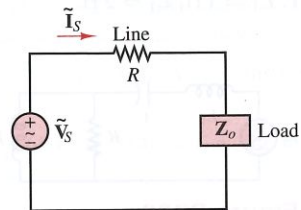

Figure P7.29
- 7.29** The load Z_o shown in Figure P7.29 consists of a $20\text{-}\Omega$ resistor in series with a 0.01-H inductor. Assuming $f = 60\text{ Hz}$, $R = 0.5\text{ }\Omega$, $\tilde{V}_s = 100\angle 0\text{ V rms}$. Calculate: